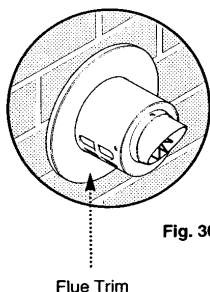

Fig. 30
12. The flue trim should be fitted once the installation is complete and the flue secure. Apply a suitable mastic to the inside of the trim and press against the wall finish, making sure the brickwork is dust free and dry (Fig. 30). If necessary fit a terminal guard (see section 7.11).